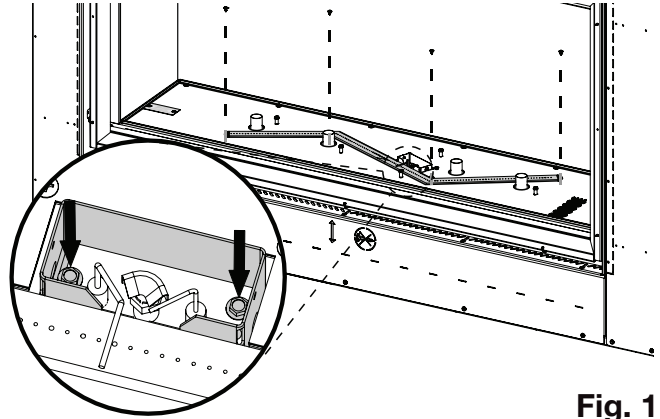

Fig. 1
5. Loosen the screws securing the pilot shield (**Fig. 1**).